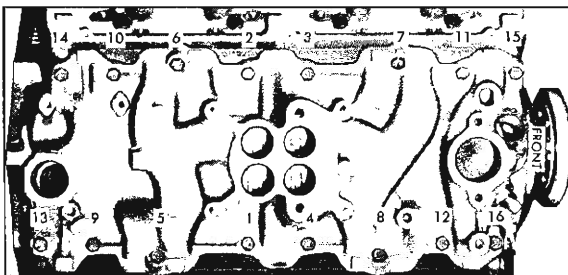

Fig. 4W—Intake Manifold Torque Sequence
5. Install manifold bolts, remove the pilot and torque bolts to specifications in proper sequence (fig. 4W).